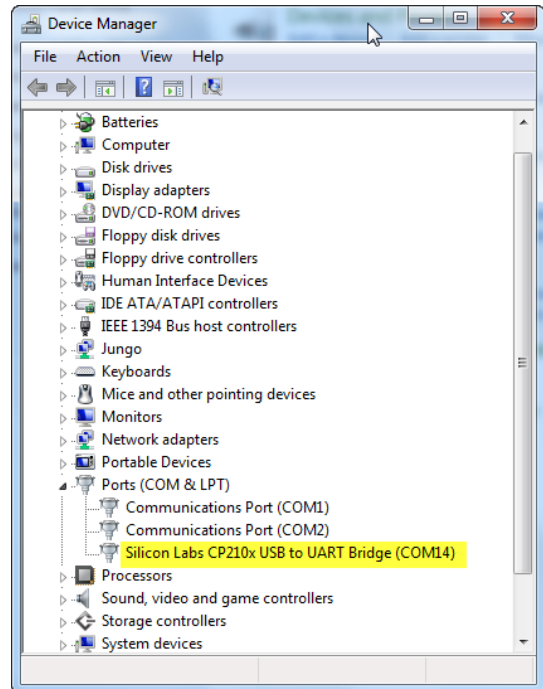

Figure 37 -- Device Manager showing COM Port for A-910 Dongle
5. Locate **SILICONLABS CP210x to UART Bridge (COM x)** as shown in Figure 37.